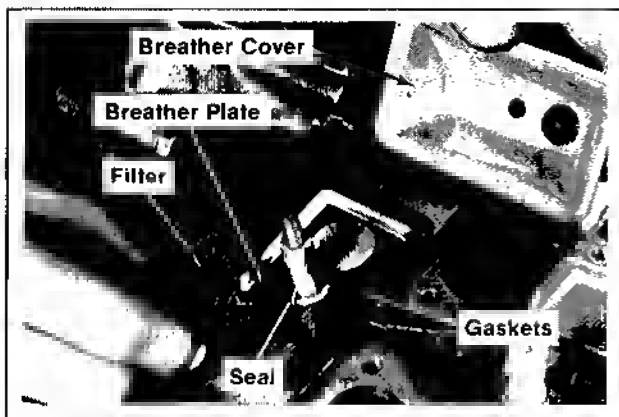

Figure 11-41. Installing Breather Components.
1. Install the gasket, breather plate, seal, and filter. Refer to Figure 11-41.